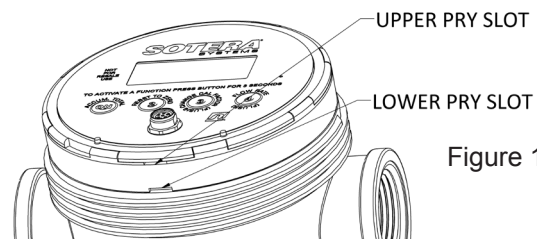

Figure 1
1. Unscrew meter cap (item 1, page 10). Use a strap type oil filter wrench or 5" open jaw type wrench if too tight to unscrew by hand.
2. Insert a wide, flat-head screwdriver into the upper slot and gently pry up electronics module (see Figure 1).